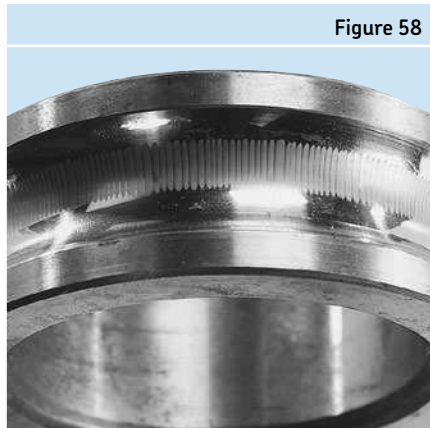

Figure 58
*Electrical erosion fluting due to current leakage occurs when these moderate voltage small currents arc over during prolonged periods and the microscopic pits accumulate drastically. The result is shown in **Figures 58** through **60**. This condition can*